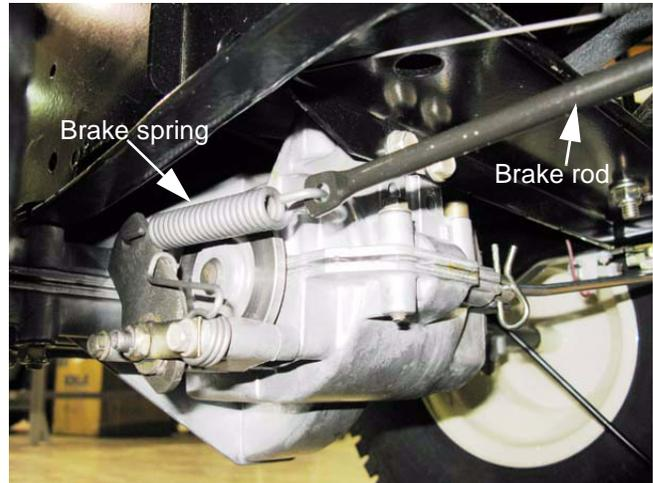

Figure 6.10
- The rod that connects the clutch/brake latch plate to the heavy brake actuator spring should be just slack. See Figure 6.10.